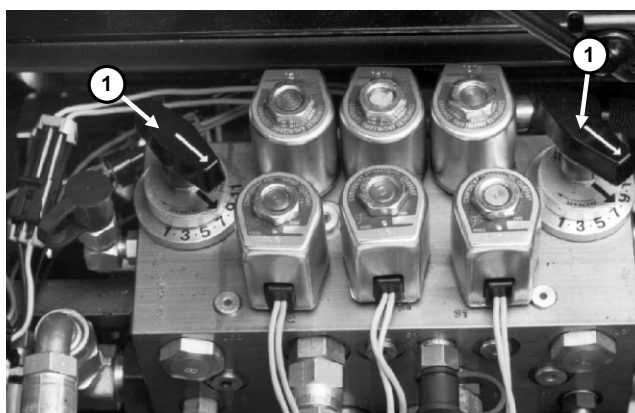
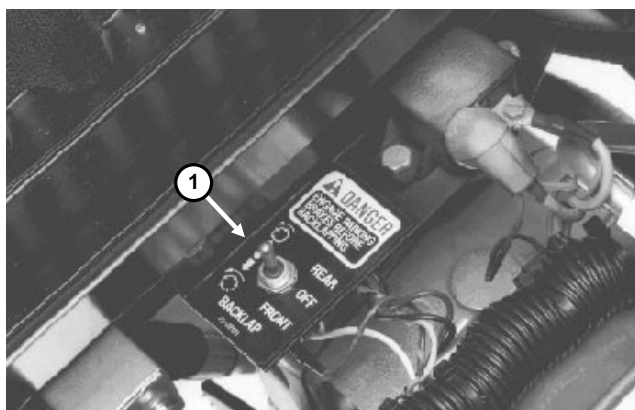

Figure 21
Figure 22
4. Set both reel speed controls to position 11 (Fig. 21). Select either FRONT or REAR on backlap switch to determine which units to backlap (Fig. 22).